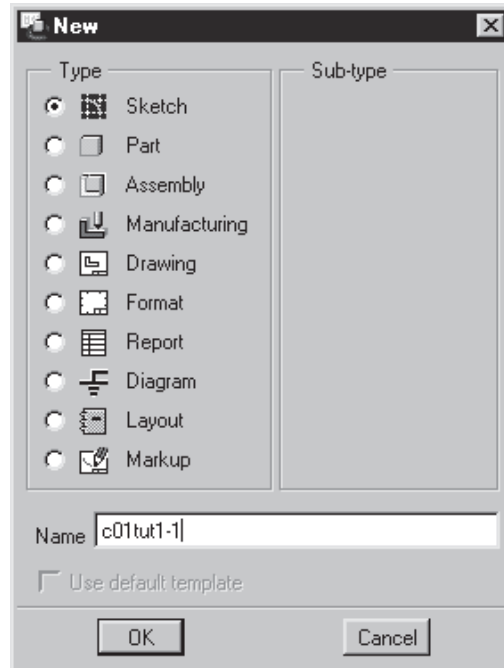

Figure 1-26 New dialog box
2. Enter **c01tut1-1** in the **Name** edit box, see Figure 1-26. Choose the **OK** button.